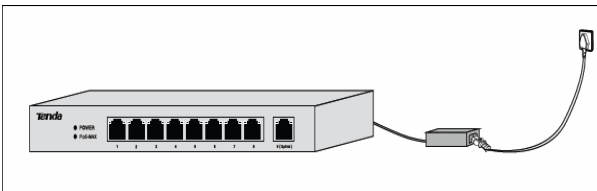

Figure 3-3 Installation with the AC power adapter
Step 3: Use the AC power adapter provided in the product package to supply power for the switch, shown as Figure 3-3.